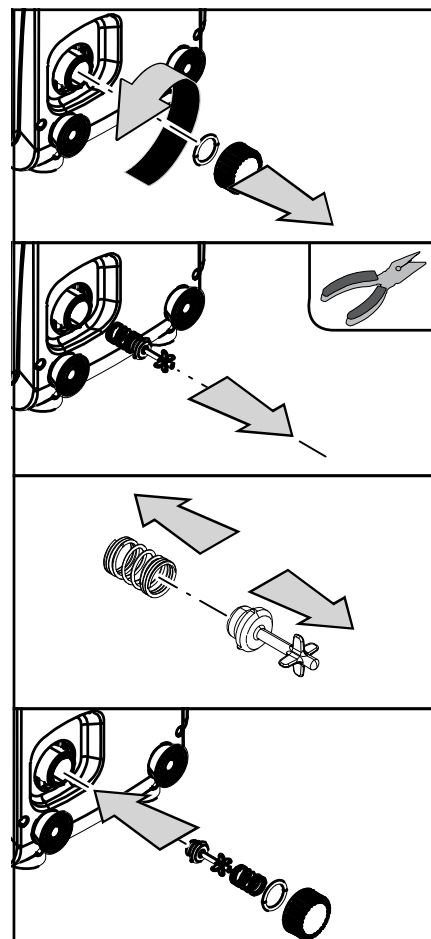

Figure 19
3. remove the drainage cap on Face E, taking care not to drop the O-Ring (Fig. 19);